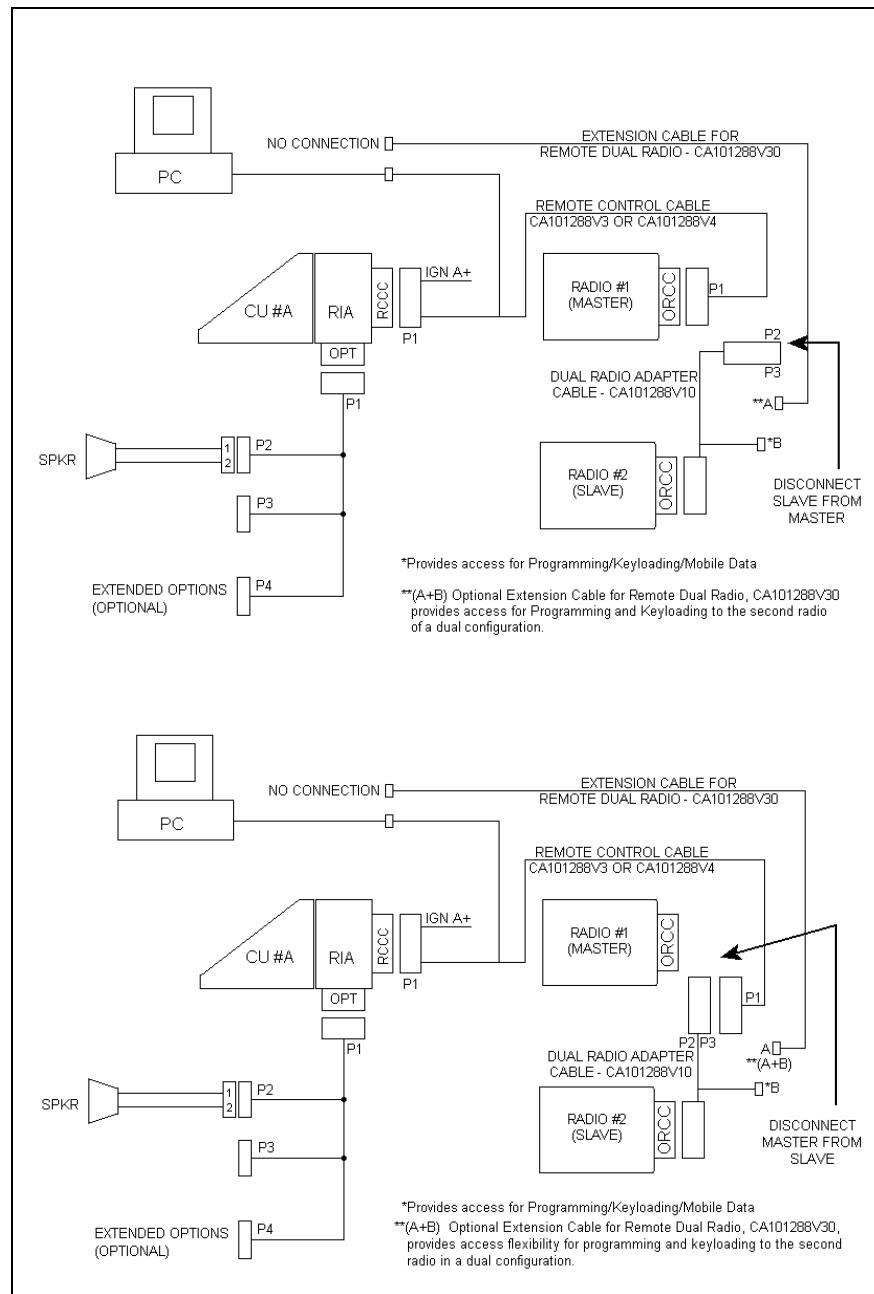

Figure 34 – Dual Radio Configuration – Remote/Remote Mount - PC Programming Procedure
1. Connect the M7100^{IP} Master Radio per the ProGrammer setup as shown in Figure 34, Step 1 with the Slave Radio disconnected. Program the Master Radio with the control configurations per the Pre-Installation Programming Procedure with ProGrammer – Dual Radio Units and adjust as necessary for the desired application.
2. Connect the Slave Radio with ProGrammer as shown in Figure 34, Step 2. The Master Radio should now be disconnected, with the Slave Radio connected as indicated. Program the Slave Radio with the configuration per the Pre-Installation Programming Procedure with ProGrammer – Dual Radio Units and adjust as necessary for the desired application.